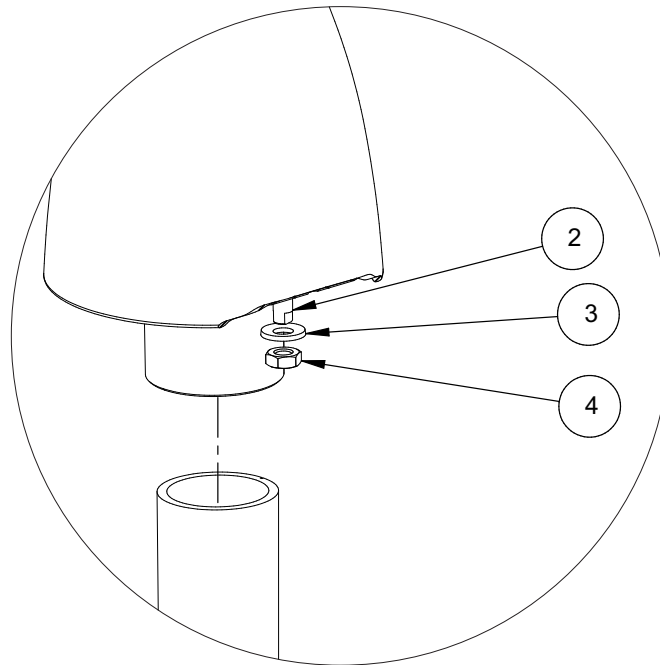

Figure 9.5: Grounding Terminal Assembly
1. Remove the nut (Item 4 in Fig. 9.5) and the safety washer (Item 3 in Fig. 9.5).
2. Place the ring terminal onto the grounding bolt (Item 2 in Fig. 9.5).
3. First place the safety washer (Item 3 in Fig. 9.5) onto the grounding bolt (Item 2 in Fig. 9.5), then screw the M8 nut (Item 4 in Fig. 9.5) onto the thread of the grounding bolt.
4. Tighten the nut (Item 4 in Fig. 9.5) with a max. torque of 6 Nm.